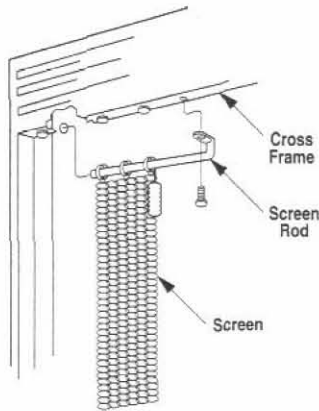

Figure 25
Step 10. Installing the Screens – Two (2) mesh screen panels and mounting hardware are packaged in the carton with the logs. Slip the rings on each screen over the mounting rod, positioning the brass pull at the formed/bent end. Insert the straight end into hole in sidewall and fasten to frame with sheet metal screw at mounting hole approximately 4" from each end (Figure 25).